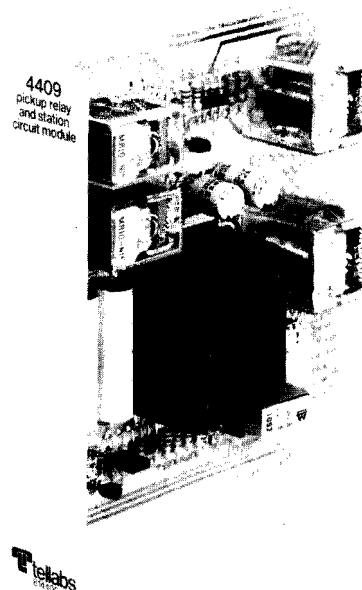

figure 1. 4409 Pickup Relay and Station Circuit Module
1.01 The 4409 Pickup Relay and Station Circuit Module (figure 1) provides a 4wire telephone set with talk battery and access to a 4wire line. Modules of this type are frequently used in selective-signaling applications to interface station telephones (usually keysets) with terminal equipment of other than Tellabs' manufacture. While the 4409 can be used as a direct-replacement module in such applications, its *primary* application is to connect a 4wire station telephone and an associated loudspeaker to a voice-paging conference arrangement involving up to 20 such telephones and loudspeakers at one end of a 4wire private line.